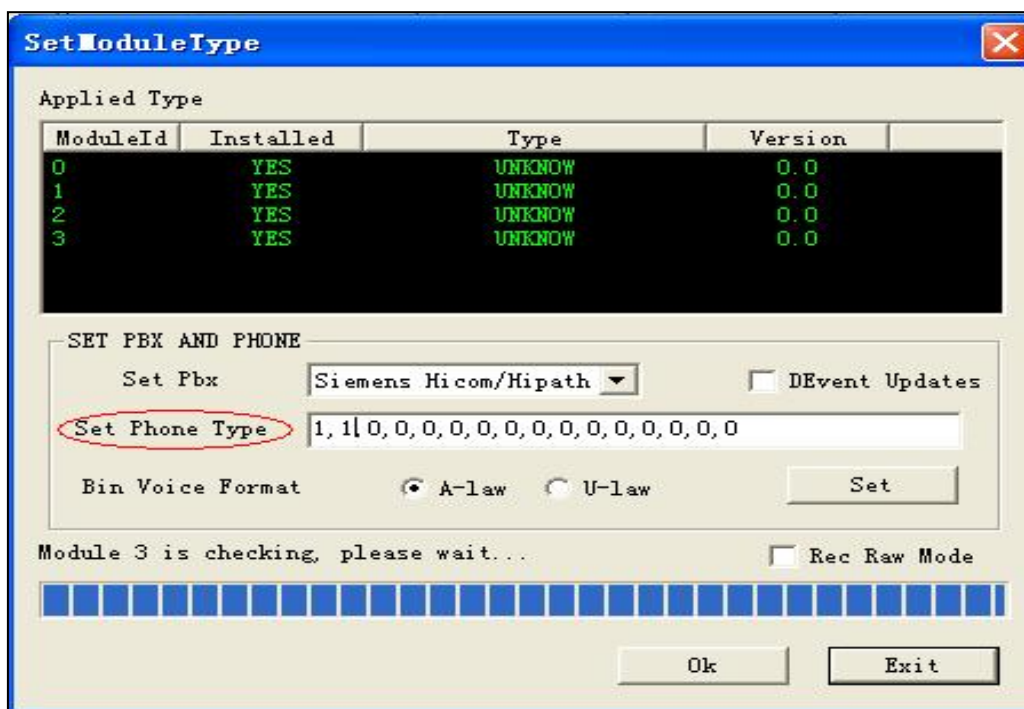
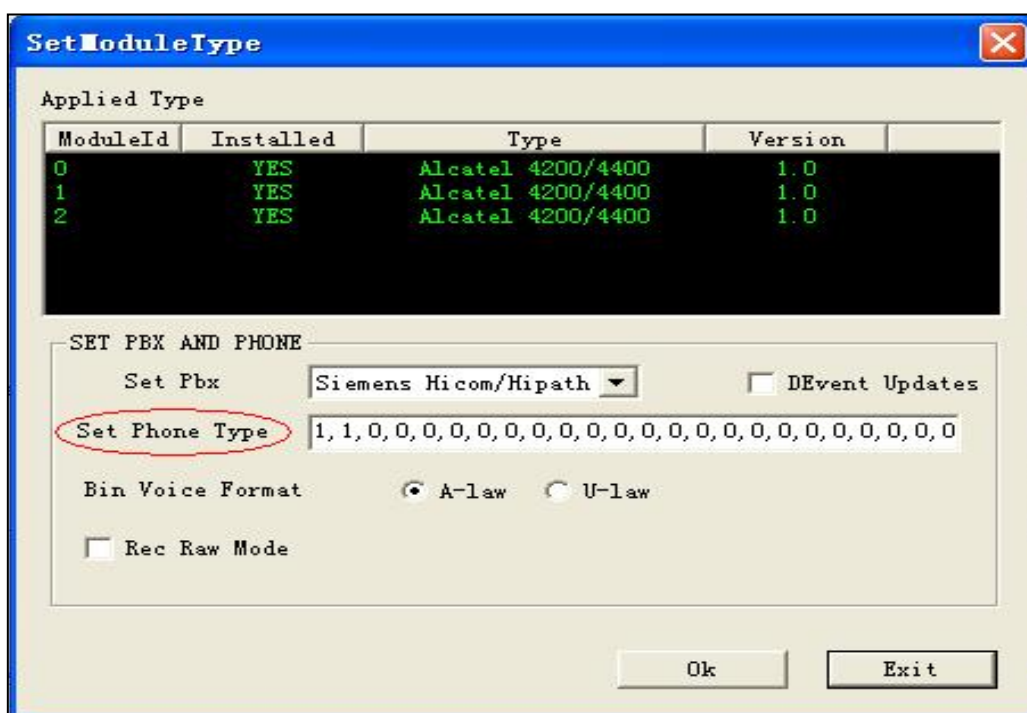

Figure 2-8 For A-type Boards
Figure 2-9 For B-type Boards
Step 7 : Go back to the dialog 'SetModuleType' and set the item 'Set Phone Type' according to your actually used phone model (refer to the file DST_PBX_Support.xls for details) as shown in Figure 2-8 and Figure 2-9..